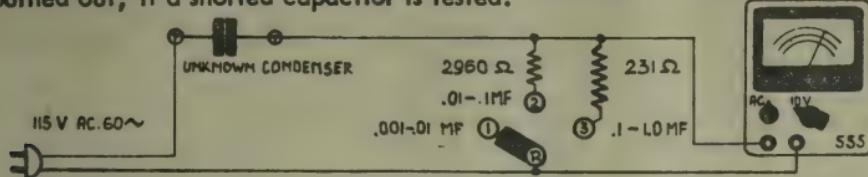

FIG. 2
By connecting the instrument as shown in Fig. 2, it is possible to make a comparative capacity test of paper capacitors. Refer to accompanying chart for the approximate readings that will be obtained when testing capacitors from .001mfd. to 1.0mfd. Do not use this setup to test electrolytic capacitors, because only d-c voltage may be applied to them. Use the 250V AC range at the beginning of the test. This will prevent the meter from being burned out, if a shorted capacitor is tested.
Fig. 2 is a schematic diagram of the internal connections for a-c voltage measurement. Note that the function switch, S2, is set at AC (2) when the instrument is to be used as an a-c voltmeter. Also, as in the d-c voltage circuit, S1-A and S1-C merely serve as closed connectors in every position, while S1-B introduces different resistances in series with the meter. External test connectors are made by inserting the tips of the test leads in pin jacks J3 (COMMON $-$) and J4 (+) on all voltage ranges except the 5000V range, when jacks J3 and J6 (A. C. 5000V) are used.
The output voltage measurement (see Fig. 2) description is essentially the same as that listed in the preceding AC section except that the condenser, C1, is used to block any DC component present.
The operation of the DB range, (see Fig. 2), is essentially the same as that described under Output Voltage Measurement. The meter is calibrated in DB across a 500 ohm impedance.